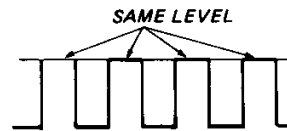

Figure 4
3. Adjust RV111 (SECAM SUB COLOR) so that blue output TP10 (B.OUT) is as shown in Figure 4.
4. Input a PAL color bar and adjust RV108 (PAL SUB COLOR) so that blue output is as shown in Figure 4. COLOR VR center=6V DC